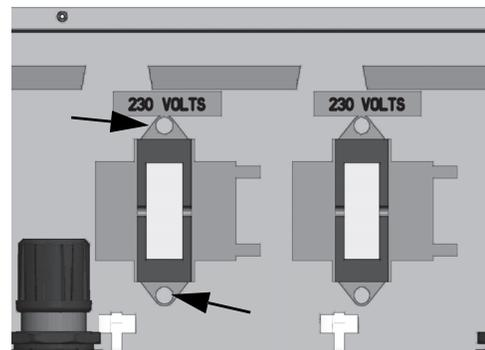

Figure 61.
7. Disconnect the wire connected to transformer and remove the two screws as shown in Figure 61.